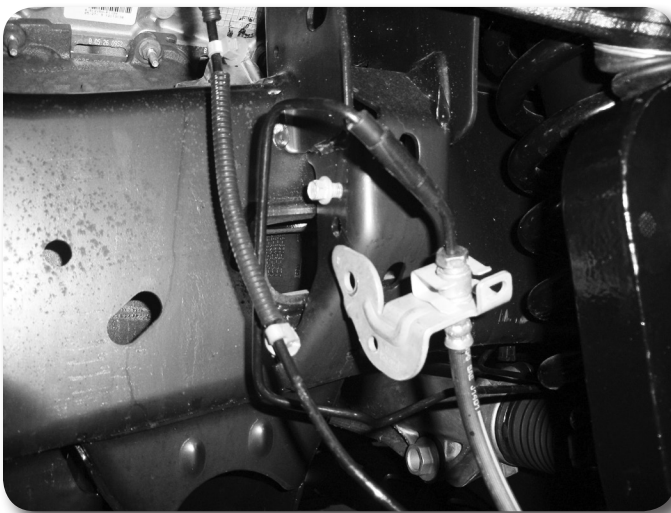

Figure 16
41. Install the brake line relocation brackets at the frame **Figure 16**. Attach with factory hardware to frame, attach brakeline retaining clip with a provided 1/4" nut and washer to the relocation bracket. Tighten to 15 ft-lbs.